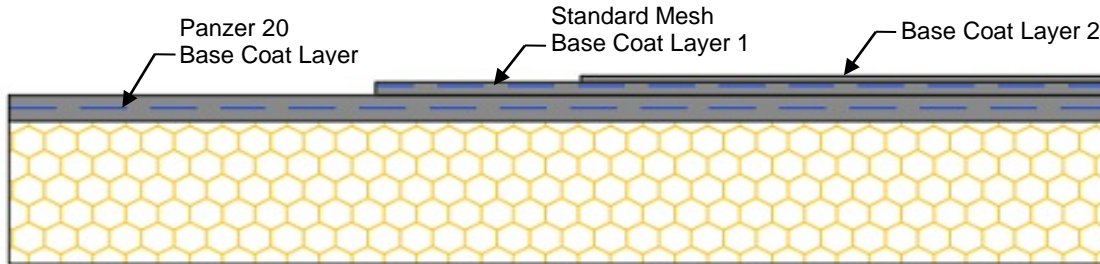

Figure 20
- b. The Standard Reinforcing Mesh base coat shall be applied such that the resulting overall minimum base coat thickness is sufficient to **fully embed** the reinforcing mesh. The recommended method is to apply the base coat in two (2) passes.
- c) Allow the Standard Reinforcing Mesh base coat mixture to take up until firm to the touch. Trowel a second tight coat of the base coat mixture over the first coat to **fully cover** the reinforcing mesh - Figure 20. The result should be such that the reinforcing mesh is approximately centered within the base coat thickness. Do not allow the first pass to completely dry prior to the second pass application or an excessive amount of base coat mixture will be necessary to fully coat the wall surface.